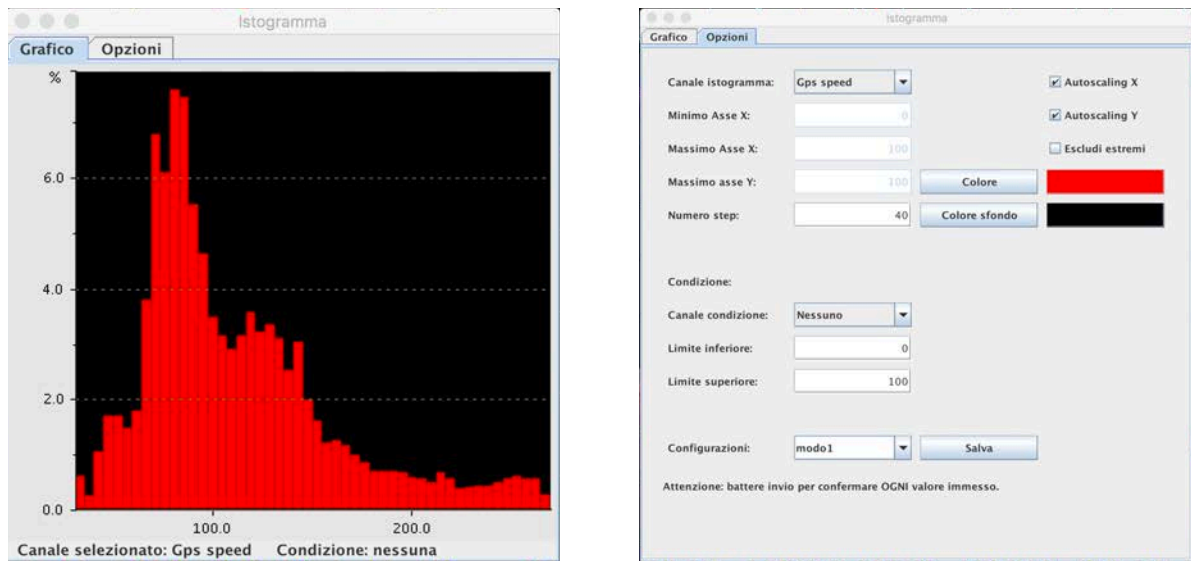

Fig. 41 – Histogram and its options
- Histograms:** this function allows you to create one of more histograms relative to the channels. Using *open new histogram* allows you to create a new histogram as shown in figure 41. The options tab allows you to configure the channel that you want to histogram, the minimum and maximum values of your interest, the maximum value of the Y-axis of the histogram and finally the number of steps that you want to use to compute the histogram. The *autoscaling* functions automatically sets the full scale ranges. In case of histograms related to the sessions, the *remove edges* option allows you to discard the first and the last lap of the session. Histograms can be customized also in terms of color and background color using the corresponding fields in their options tab.